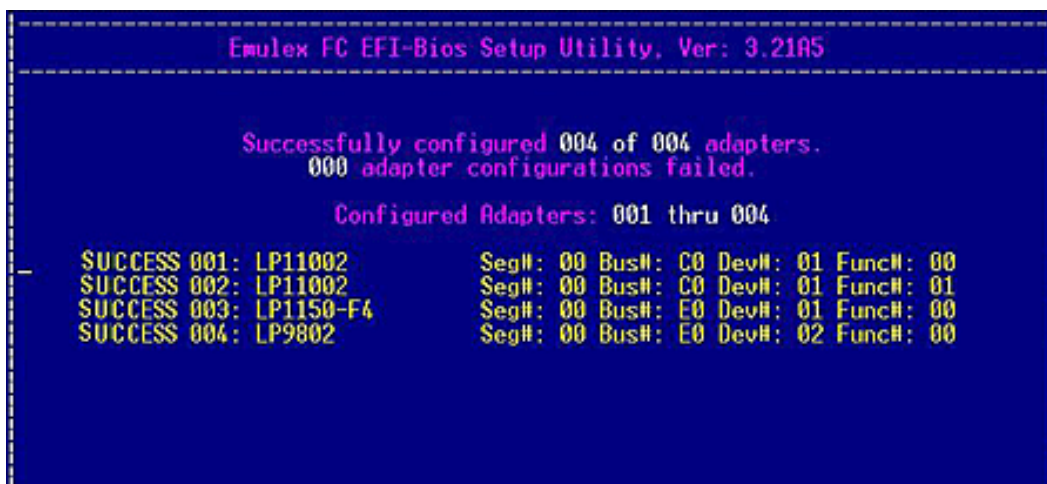

Figure 6-36 Successful Batch Configuration Screen
5. Press <P> to configure the selected adapters. If the adapters are configured successfully, a screen similar to Figure 6-36 is displayed.
5. Press **<P>** to configure the selected adapters. If the adapters are configured successfully, the screen shown in Figure 6-36 is displayed.